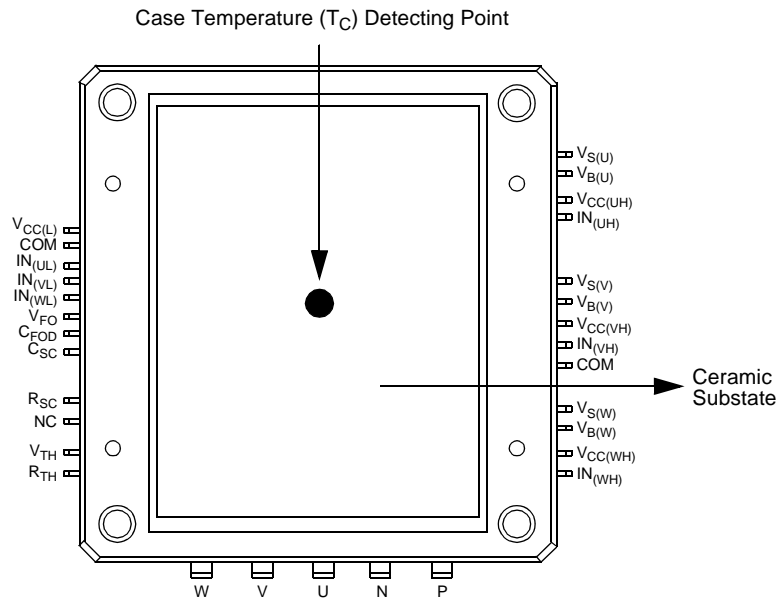

Fig. 4. T_c Measurement Point
| Each IGBT Collector Current | $\pm I_C$ | $T_C = 25^\circ\text{C}$ (Note Fig. 4) | 20 | A |
| Each IGBT Collector Current (Peak) | $\pm I_{CP}$ | $T_C = 25^\circ\text{C}$ (Note Fig. 4) | 40 | A |
| Module Case Operation Temperature | T_C | Note Fig. 4 | -20 ~ 100 | $^\circ\text{C}$ |
2. For the measurement point of case temperature (T_c), please refer to Fig. 4.
| Resistance of Thermistor | R_{TH} | @ $T_C = 25^\circ\text{C}$ (Note Figs. 4 and 7) | - | 50 | - | k Ω | |
| | | @ $T_C = 80^\circ\text{C}$ (Note Figs. 4 and 7) | - | 6.3 | - | k Ω | |